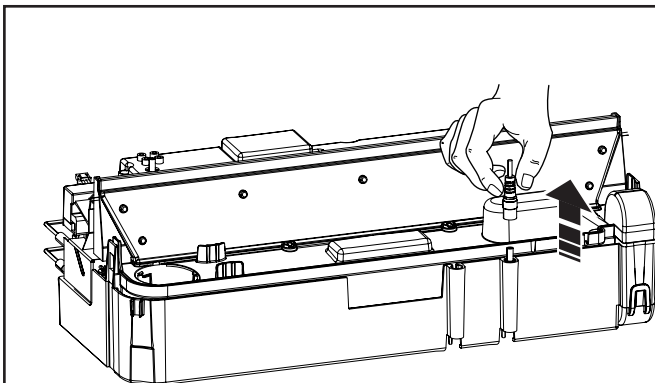

Fig 27
4. Disconnect the electrical connector to the transducers, located on the right side of the sump. (Fig 27).